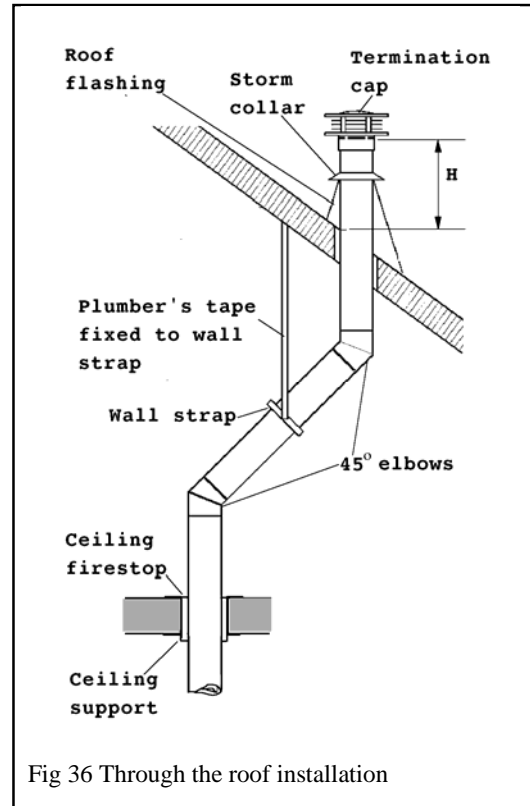

Fig 36 Through the roof installation
- The distance from the roof to the lowest terminal discharge opening (“H” in figure 36) depends on the roof pitch and must be in accordance with the Dura-vent instructions supplied with the termination unit.
- Determine the position where the vent will pass through the roof. If directly above the position where it penetrates the ceiling, drop a plumb from the roof to the small hole in the ceiling and mark the roof at this spot. If rafters or other obstructions will prevent a vertical exit or if clear attic space is desired, the roof outlet can be offset using 45° elbows - see fig. 36.
- Fit vent accessory elbows and pipe lengths as required up through ceiling support boxes and firestops. If installation includes offset, support the offsetting pipes every 3 feet (1m) with wall straps (fig. 36).